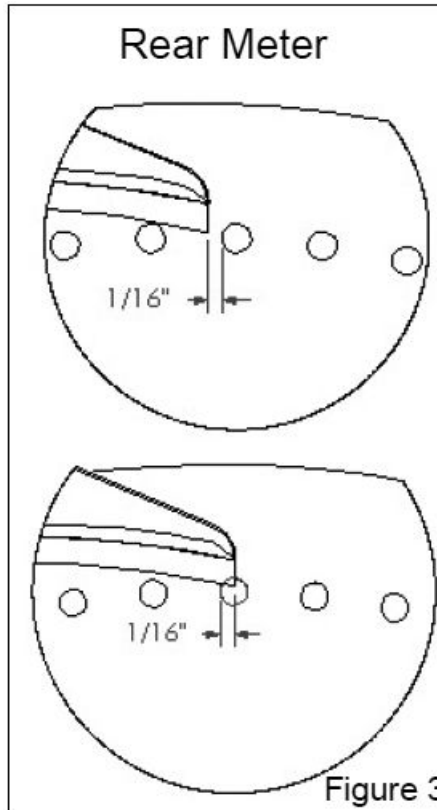

Figure 3
g. Observe the location of the seed cell nearest the tip of the scraper, See Figure 3.